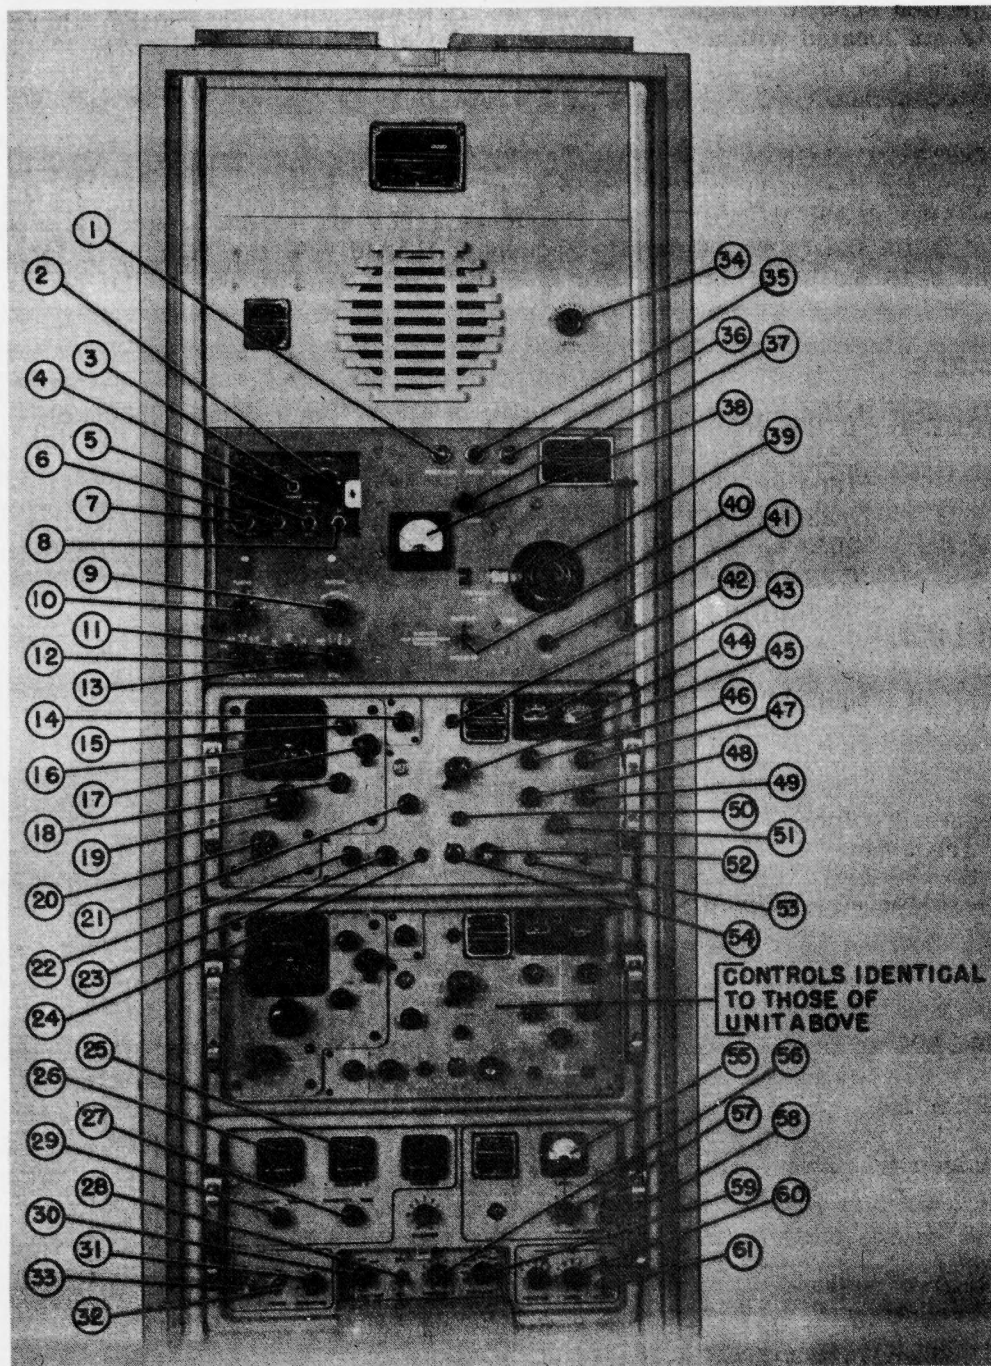

Figure 4-1. Front Panel Controls, Radio Receiving Set AN/FRR-32.
- (3) Turn the POWER switch of the R-F Oscillator (Control (7) in figure 4-1) to ON and allow 48 hours warm up.
- (4) Turn the Power switches of the receivers to ON (see 24 in figure 4-1).
- (5) Adjust dial illumination on both receivers by turning the DIM control. Turn DIM control fully counterclockwise to extinguish dial light. Should dial light fail, switch LAMPS knob to SPARE position and report the burned out light to a technician.
- (6) Turn ADD DECIBELS switch of both receivers to the +20 position.
- (7) Turn the OSC switch of both receivers to INT.
- (8) Make sure the CAL switch on both receivers is at the OFF position.
- (9) Turn the POWER switch on the Comparator Keyer to ON.
- (10) Note that the PILOT lights on all four units are glowing except when the knurled ring around the light is turned clockwise.
- (11) Two pairs of headsets can be operated from each receiver at the same time. They can be used to observe the output of the respective receiver only. Plug one or two pair of headsets into the jacks on the receiver marked PHONES.
*Refer to figure 4-1.